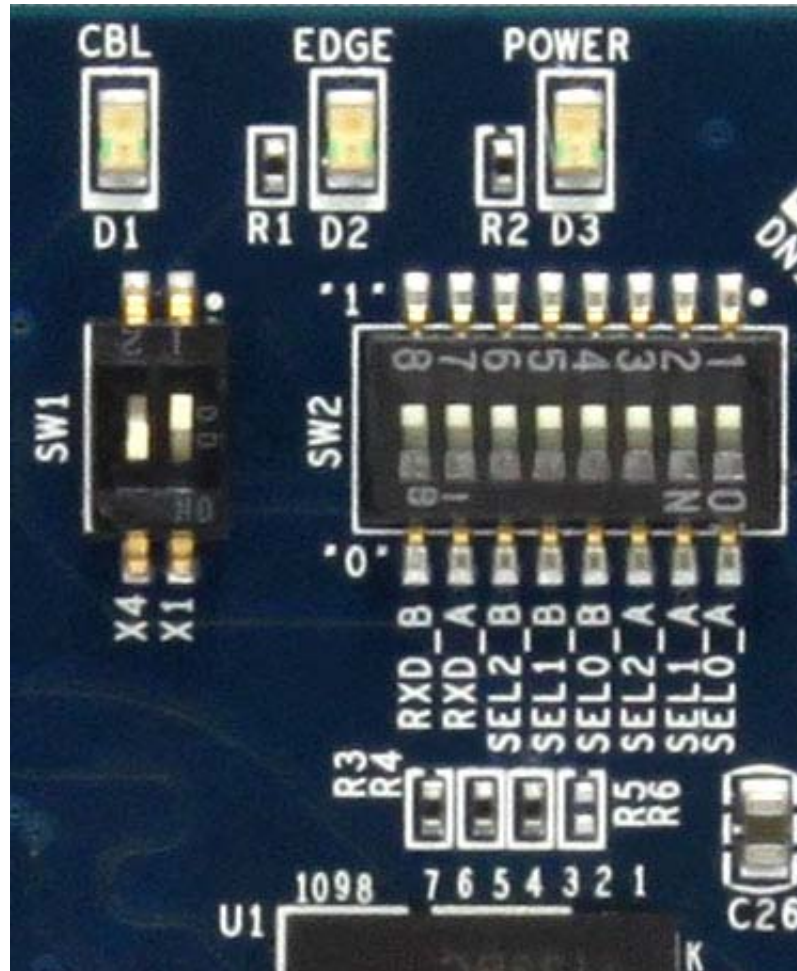

Figure 4-1 PCA switches setting
- SW1 :set to X4 mode, SW2: all pin set to “1”. as shown in Figure 4-1